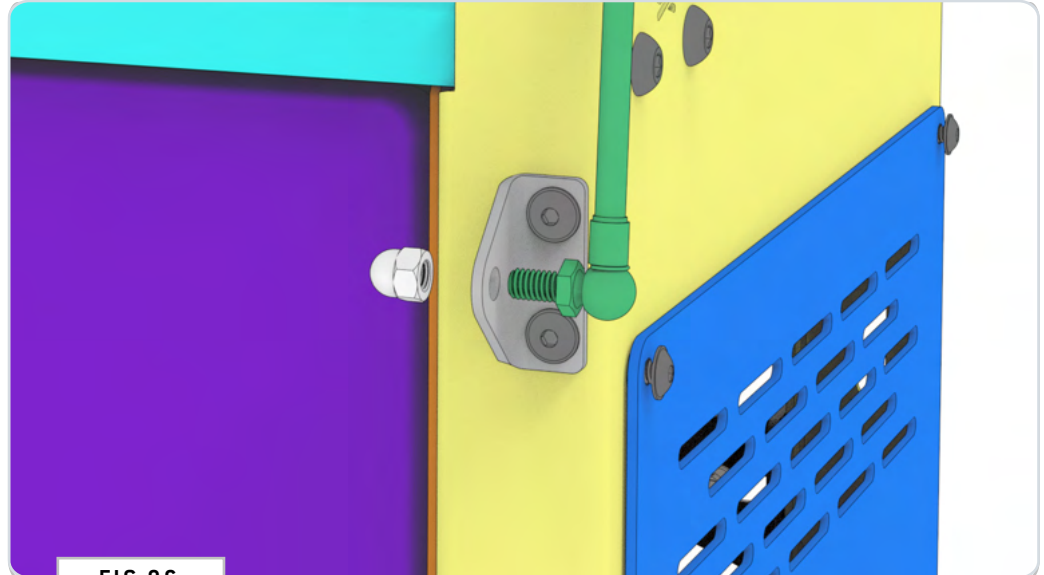
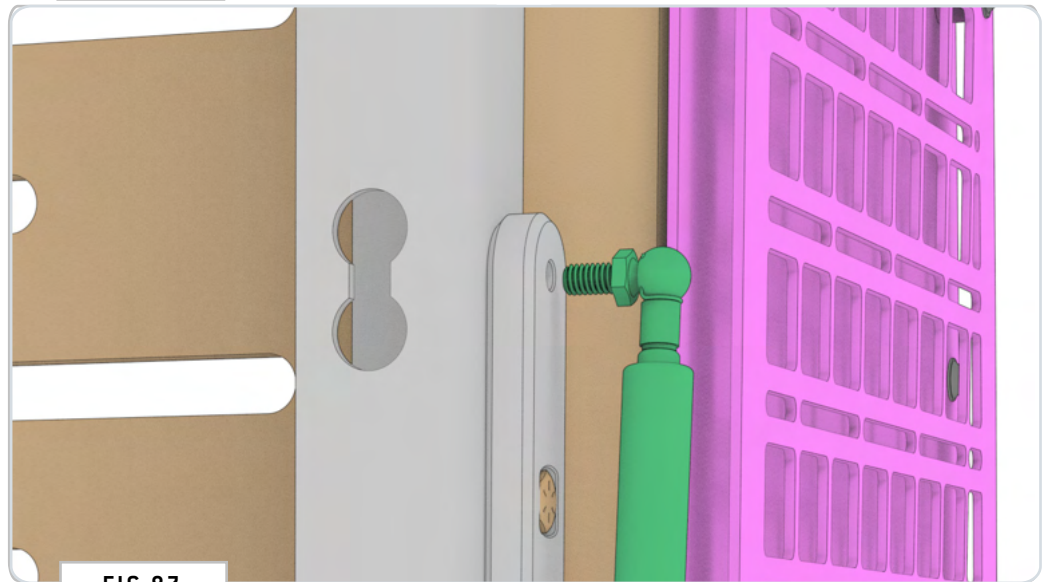

FIG 86
FIG 87
**6.5 Attach Gas Struts to Bed Frame and Strut Brackets:** Lift up the **Bed Frame** and attach the **Gas Struts** to the pre-threaded holes of the **Bed Frame Arms** (FIG 86) and the **Gas Strut Brackets** using (1ea) M8 Cap Nuts (FIG 87).